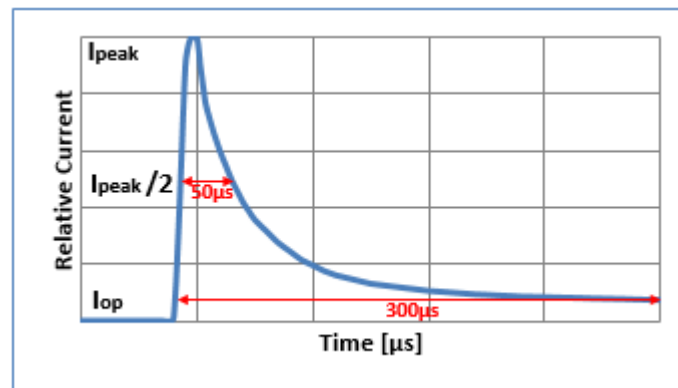

Figure 2: Behavior of the switch-on current
- ▶ Observe when designing the power supply unit figure 2.